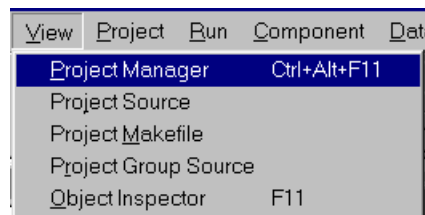

Figure 2-5-4. Select the menu items “View” / “Project Manager”.
Step 7: Select the menu items “View” / “Project Manager”. Refer to Figure 2-5-4.